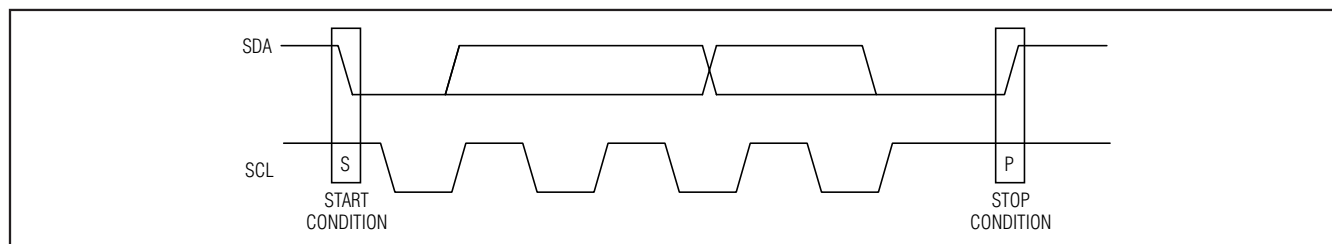

Figure 3. START and STOP Conditions
Each transmission consists of a START condition sent by a master, followed by the MAX7318 7-bit slave address plus R/W bit, a register address byte, 1 or more data bytes, and finally a STOP condition (Figure 3).
Both SCL and SDA remain high when the interface is not busy. A master signals the beginning of a transmission with a START (S) condition by transitioning SDA from high to low while SCL is high. When the master has finished communicating with the slave, it issues a STOP (P) condition by transitioning SDA from low to high while SCL is high. The bus is then free for another transmission (Figure 3).